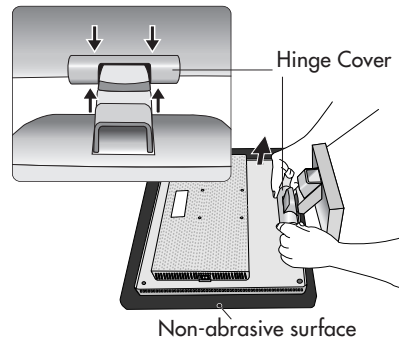

Figure R.1
2. Place monitor face down on a non-abrasive surface (Figure R.1).
3. Remove the hinge cover (Figure R.1).